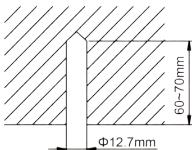

Fig4.4
- (2) Install the bolts to the ceiling at a place strong enough to hang the unit. Mark the bolt positions from the installation template. With a concrete drill, drill for 12.7mm diameter holes. (Fig. 4.4)